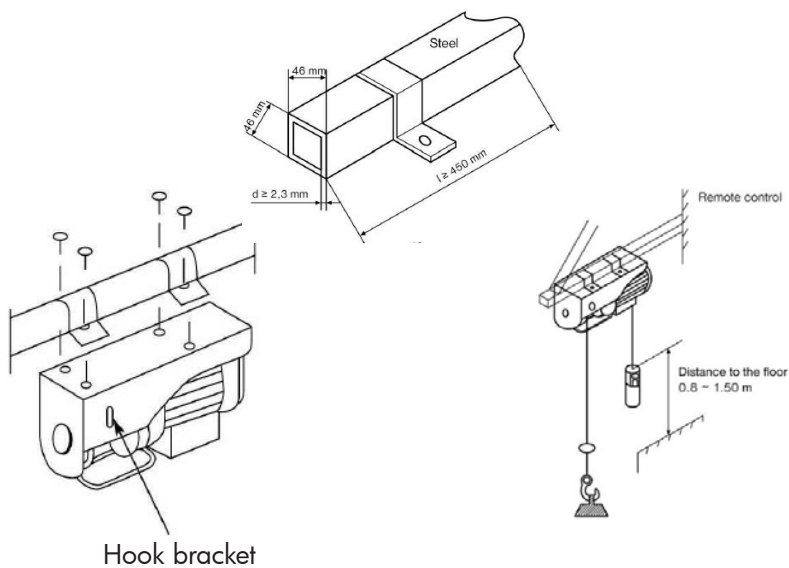

Fig. 2 - 3
1. Install the cable winch on a steel beam (see fig. 2). Use only the enclosed installation brackets which can be attached to the top of the mounting casing using the screws, washers and spring lock washers. The steel beam must be able to withstand at least double the rated weight of the machine. Contact a professional installer for best results.
2. The steel beam must have a diameter of 46 mm, a wall thickness of at least 2.3 mm and a length of at least 450 mm (see fig. 2, below).